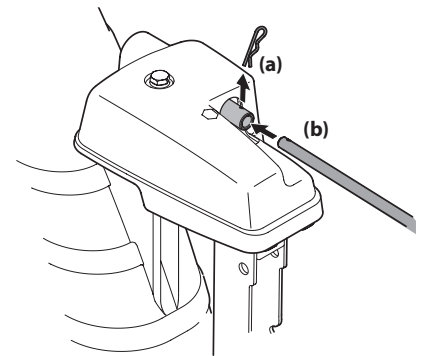

Figure 2-25
5. Remove hairpin clip (a) from rear of chute control head. See Figure 2-25.
6. Insert chute control rod (b) into rear of chute control head. See Figure 2-25. Secure chute control rod to chute control assembly with hairpin clip (a) removed in Step 5.